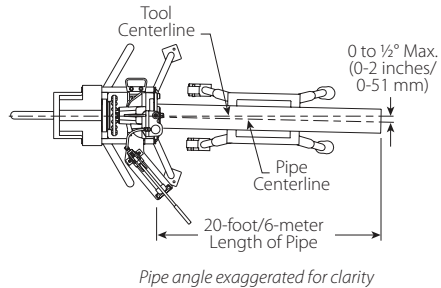

FIGURE 2 - TRACKING ANGLE
6. Position the pipe stand approximately $\frac{1}{2}^\circ$ to the left for the tracking angle. Refer to Figure 2 below.